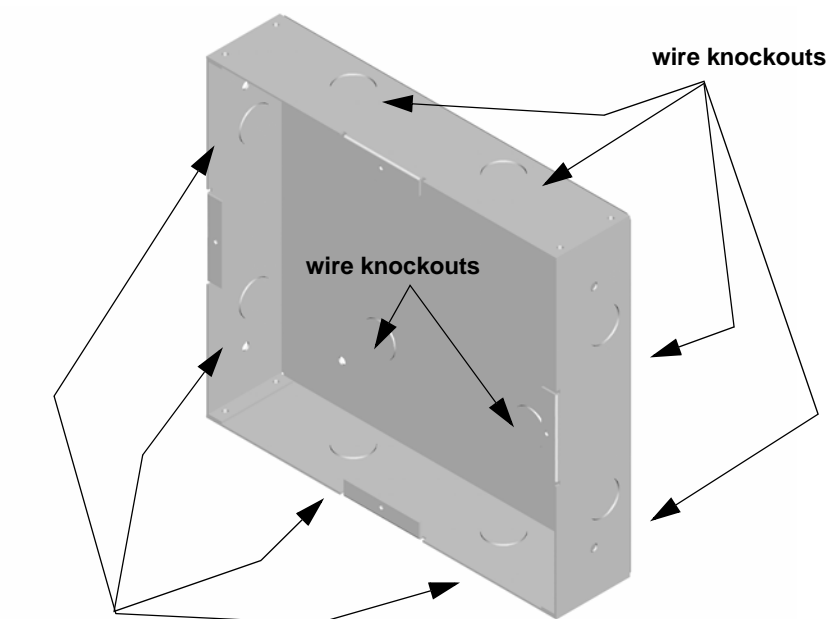

Figure 4.14 Back Box Knockout Locations
2. Remove the knockout holes as needed for wires. See Figure 4.14 for backbox knockout locations.
1. Remove the desired knock outs. See Figure 4.14.